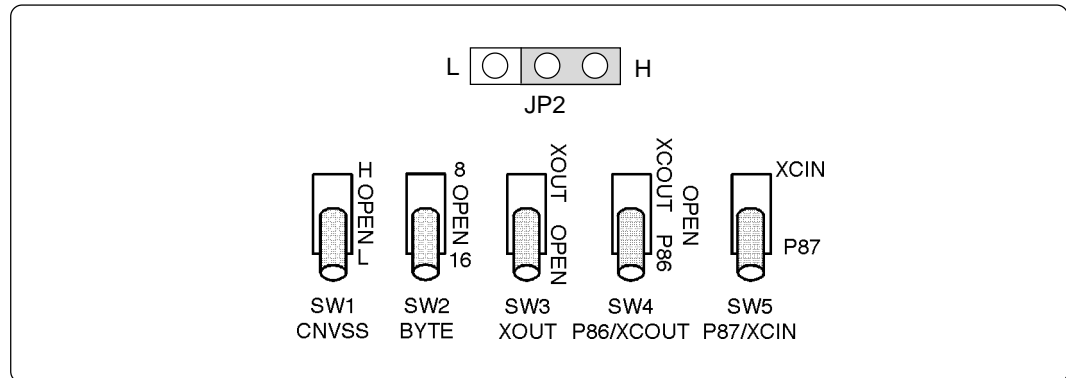

Figure 4.3 Switch settings when running the self-check (factory-settings)
- (1) Set the switches in the emulation pod same as the factory-setting (see Figure 4.3).
- (2) When the target system is connected, disconnect the target system.
- (3) Within 2 seconds of activating power to the emulator, press the RESET switch on the emulator front panel to switch the emulator to maintenance mode.
- (4) Check the "SAFE" LED starts blinking and then press the RESET switch again.
- (5) The self-check will start. If the normal result is displayed in about 40 seconds, the self-check terminated normally.
- Check if the switches in this product are set same as the factory-settings (Figure 4.3).